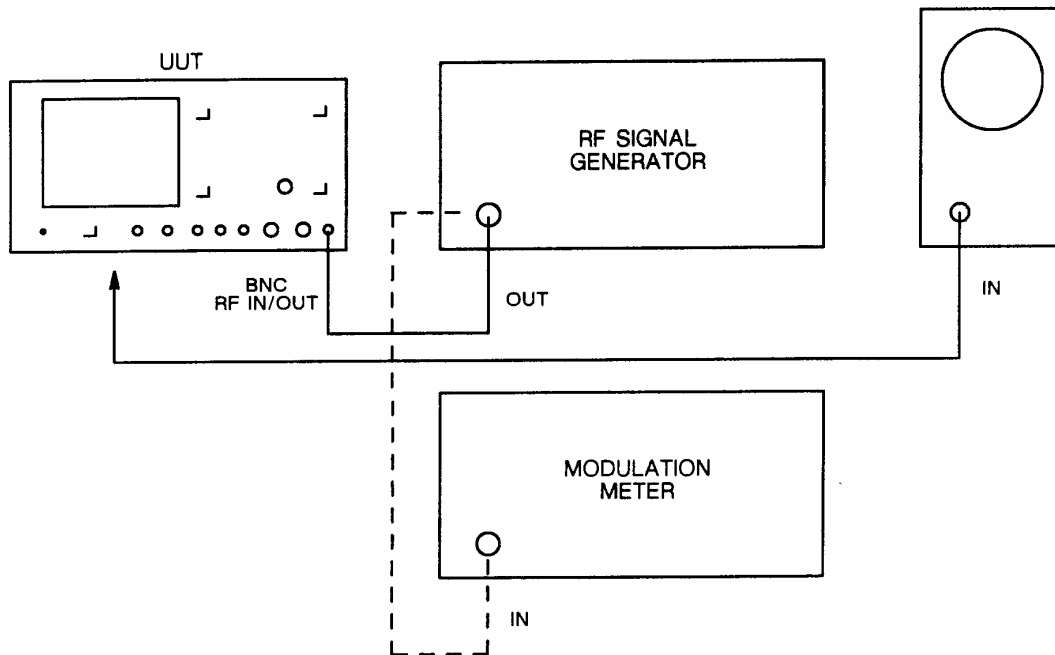

Fig. 5-2-7 Test equipment connections for adjusting R138,R172,R168,R129 on AB5/1
- (1) Connect the signal generator to the UUT as shown in Fig. 5-2-7.
- (2) Set the signal generator to carrier frequency 100 MHz, modulation off, RF level 0 dBm.
- (3) Set the UUT to TX, monitoring AM, 0.3 – 3.4 kHz band-pass filter, BNC input.
- (4) Set R172 to mid-position. Monitor TP1 via the probe on the oscilloscope.
- (5) Reduce the signal generator output slowly until the trace on the oscilloscope starts to reduce. Now adjust R138 to peak the trace, i.e. maximum amplitude on TP1.
- (6) Increase the signal generator RF level to 0 dBm and adjust R172 for 1 V pk-pk on the oscilloscope. Remove the oscilloscope probe from TP1.
- (7) Set the signal generator to carrier 100 MHz, AM 50%, modulation 1 kHz, RF level 0 dBm.
- (8) Set the modulation meter to measure AM, (pk-pk)/2 with the 0.3 – 3.4 kHz band-pass filter selected.
- (9) Connect the signal generator output to the modulation meter input and note the AM depth reading.
- (10) Connect the signal generator output to the UUT BNC input socket and adjust R168 to give the same AM reading on the UUT as was displayed on the modulation meter.
- (1) Connect the signal generator to the modulation meter as shown in Fig. 5-2-7.
- (2) Set the signal generator to carrier frequency 100 MHz, FM deviation 5 kHz, modulation rate 1 kHz, RF level 0 dBm.